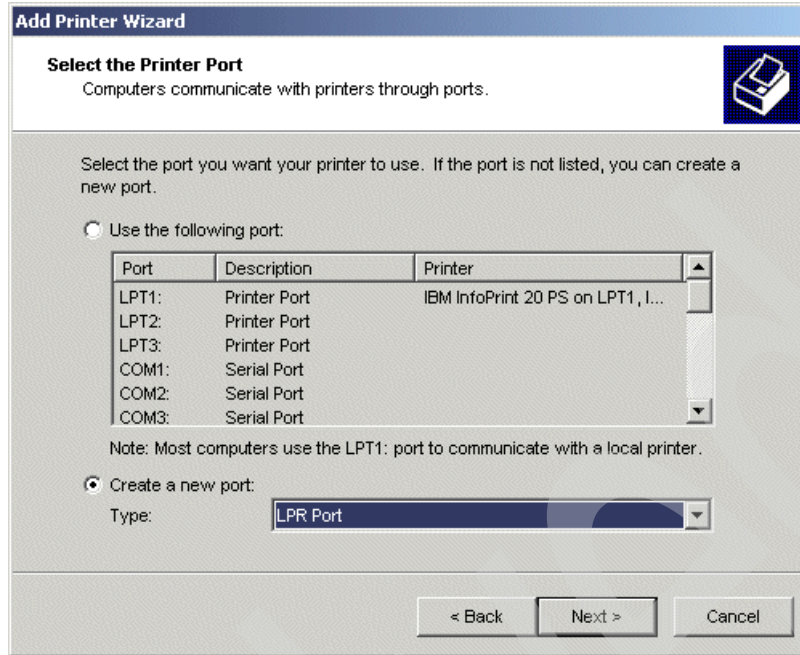

Figure 123. Selecting the printer port
4. Click **Next** and the Select the Printer Port panel appears (Figure 123). Select **Create a new port** and choose **LPR Port**.